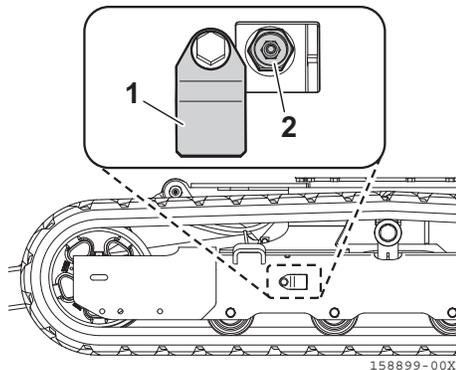

Fig. 8-22
1. Remove the cover (Fig. 8-22, 1).
3. Loosen the nipple valve (Fig. 8-22, 2) and discharge the grease until the steel crawler tension is 5.1 in. (130 mm) [4.7 to 5.1 in. (120 to 130 mm) when replacing with a new one].
- Never loosen the nipple valve (Fig. 8-22, 2) more than one turn.
4. Tighten the nipple valve (Fig. 8-22, 2).
8. Install the cover (Fig. 8-22, 1).